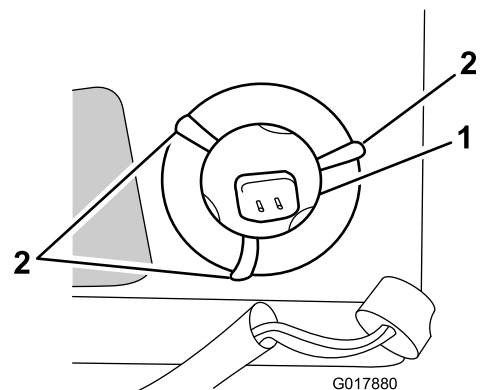

Figure 33
7. Bend the wire tabs in the metal sleeve (that hold the bulb in place) out of the way; refer to Figure 33.